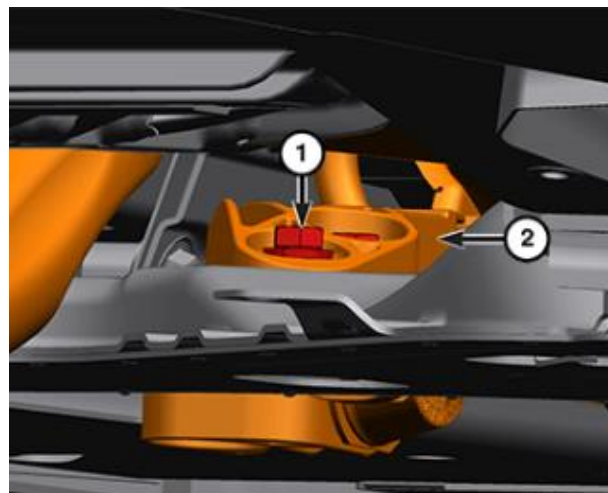

Figure 20 – Crossunder Pipe Isolator
11. Remove the front crossunder pipe isolator bolts (1) (Figure 20).
12. Remove the crossunder pipe isolator (2) (Figure 20).
21. Install the front crossunder pipe isolator and tighten the bolts to 28 N·m (21 ft. lbs.) (Figure 20).